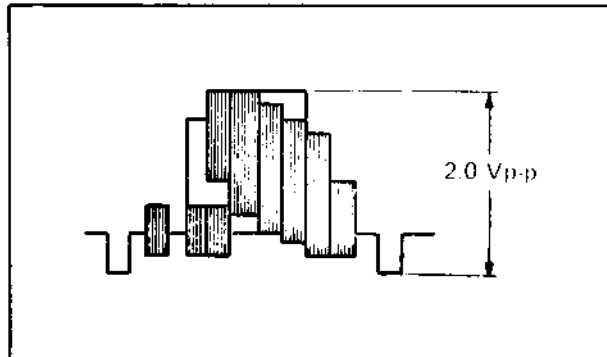

Fig. 5-17 Video output
3. Adjust R37 (P. B. OUT LEVEL) so that the level of TP-8 is 2.0 Vp-p as shown in Fig. 5-17.